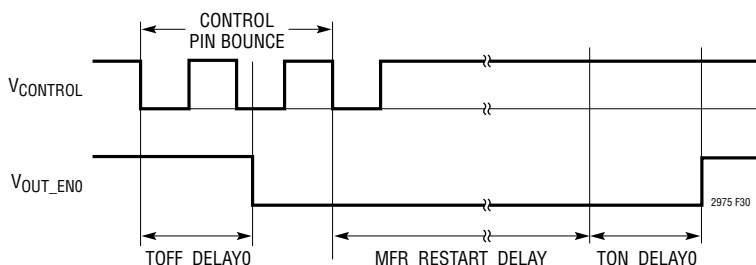

Figure 30. Off Sequence with Automatic Restart
An automatic restart sequence can be initiated by driving the CONTROL pin to the off state for >10μs and then releasing it. The automatic restart disables all V_{OUT_EN} pins that are mapped to a particular CONTROL pin for a time period = MFR_RESTART_DELAY and then starts all DC/DC Converters according to their respective TON_DELAYS. (see Figure 30). V_{OUT_EN} pins are mapped to one of the CONTROL pins by the MFR_CONFIG_LTC2975 command. This feature allows a host that is about to reset to restart the power in a controlled manner after it has recovered.
- The `FAULTB` lines can be connected together to create fault dependencies. Figure 33 shows a configuration where a fault on any `FAULTB` will pull all others low. This is useful for arrays where it is desired to abort a startup sequence in the event any channel does not come up (see Figure 30).